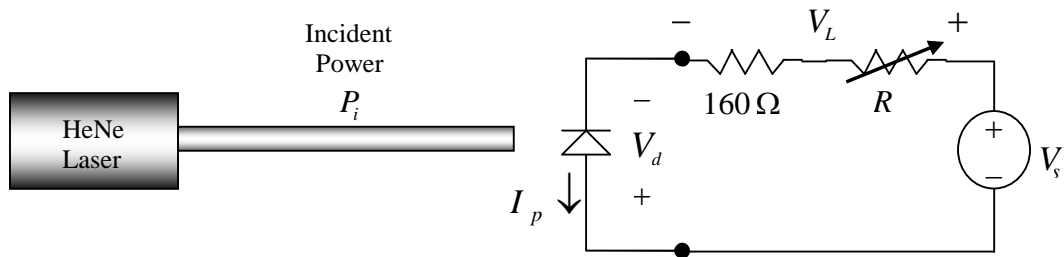

Figure 6: Circuit Diagram for Part B.
- 1- Connect the circuit shown in Figure 6 and repeat steps 1) and 2) of part A.